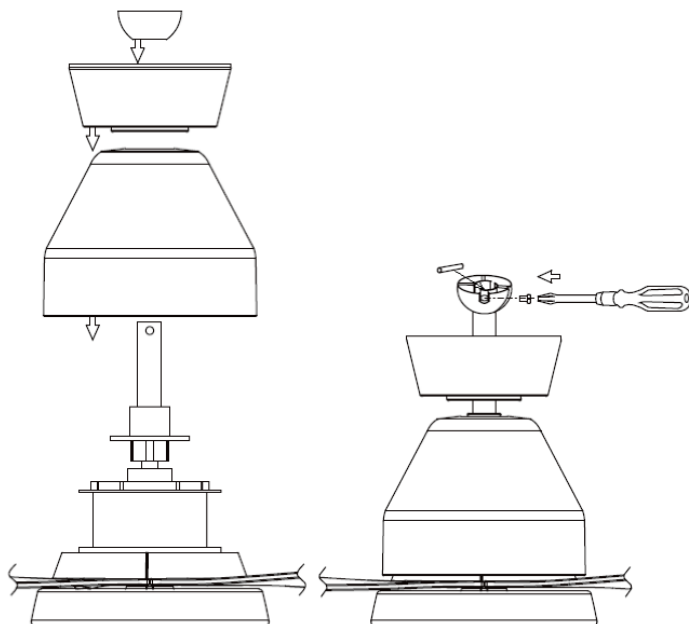

Fig. 7
- Reinstall the motor housing and the canopy to the down rod. Fig. 7
- Secure back the pin and the ball joint to the down rod. Fig.7